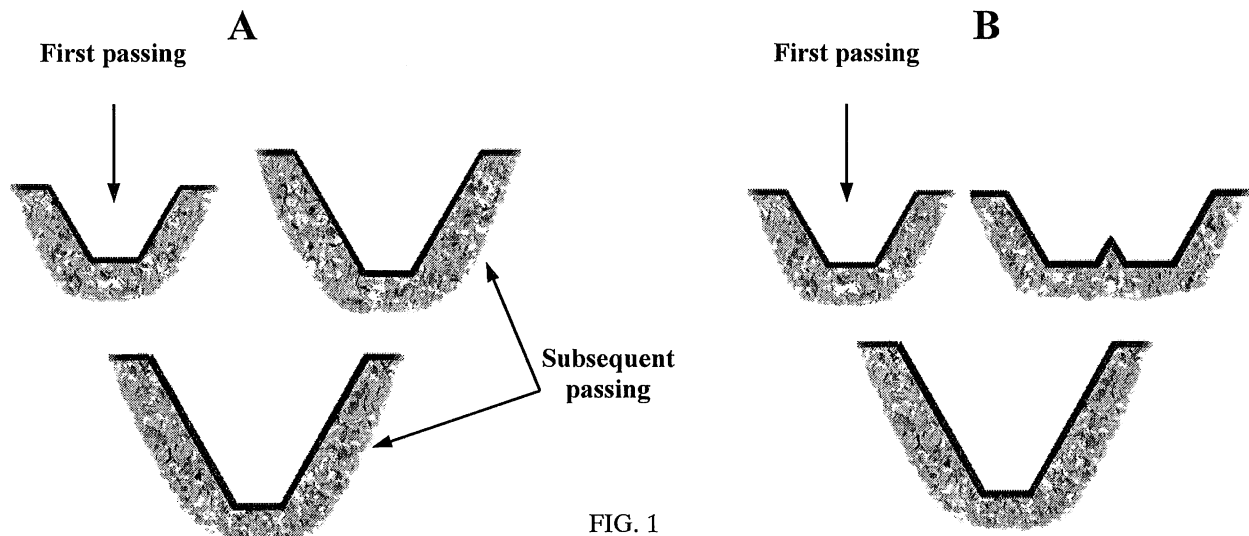

FIG. 1
- Maintaining the low speed, go forward creating the first shape of the ditch, which depth must correspond to a third of the maximum depth desired (see fig. 1 case a and b).
- Subsequently carry out other passing (always proceeding very slowly) until obtaining the maximum desired depth (see fig. 1 cases a and b).